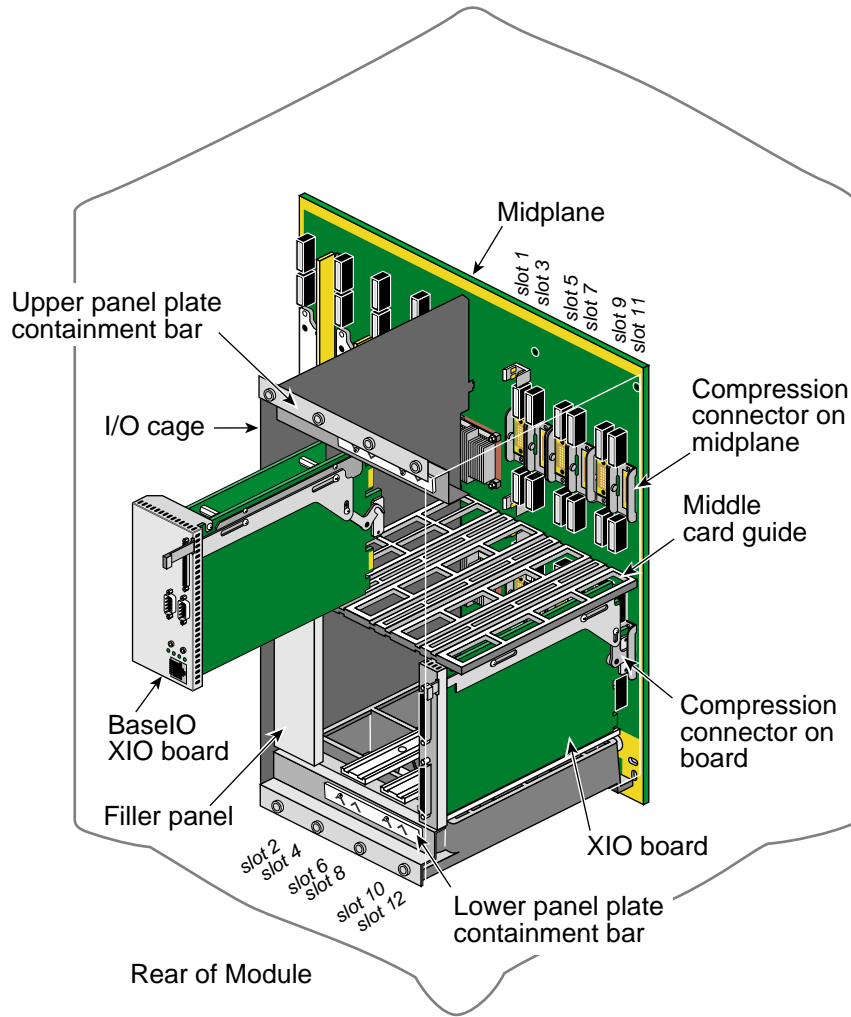

Figure 2 I/O Items in the Origin 2000 Deskside Server
- Figure 2** I/O Items in the Origin 2000 Deskside Server 6
Each node board accommodates a maximum of 3 TPU cards. In general, if a server has a node board in slot *N1* or *N3* with BaseIO in XIO slot 1, then XIO slots 2–6 are available (shown in Figure 2). If it has a node board in slot *N2* or *N4*, XIO slots 7–12 are available. If a module has at least two node boards, one in *N1* or *N3* and one in *N2* or *N4*, then XIO slots 2–12 are available. (For servers with 2 or more nodes, refer to Table 3 for the recommended slot order of installation.)